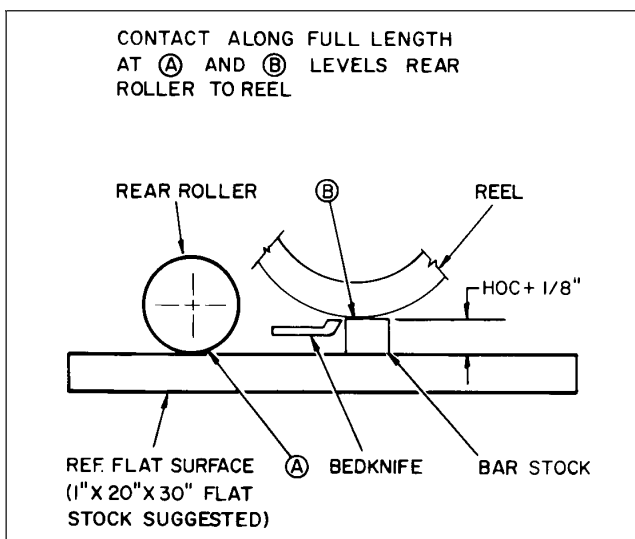

Figure 8
C. Insert a piece of bar stock 25" - 28" (70 cm) long (Fig. 8), and approximately 1/8" (3 mm) thicker than the desired height-of-cut, under the reel and up against the bedknife cutting edge (Fig. 8). The reel (not bedknife) must contact the bar stock along its full length.